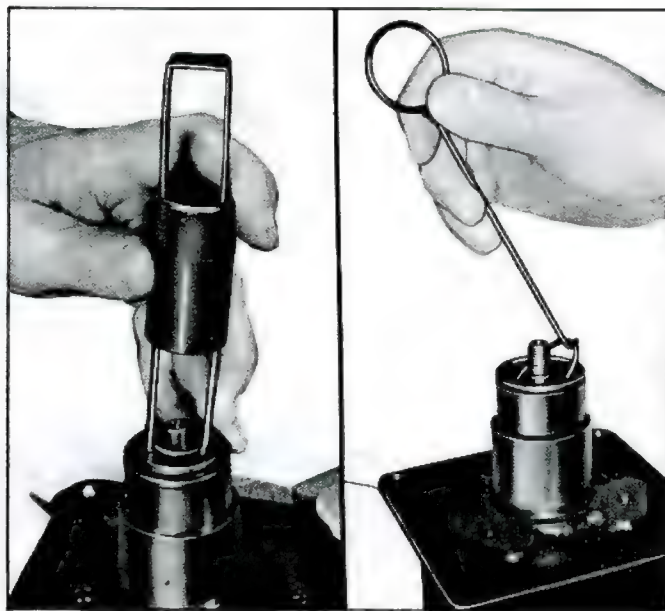

Fig. 41—Removing Seal Seat and "O" Ring
3. Using Tool J-9393 (1 and 2), grasp the flange on the seal seat and lift out the seal seat (fig. 41).
4. Remove the seal seat "O" ring from the housing bore using Tool J-9553 (fig. 41).